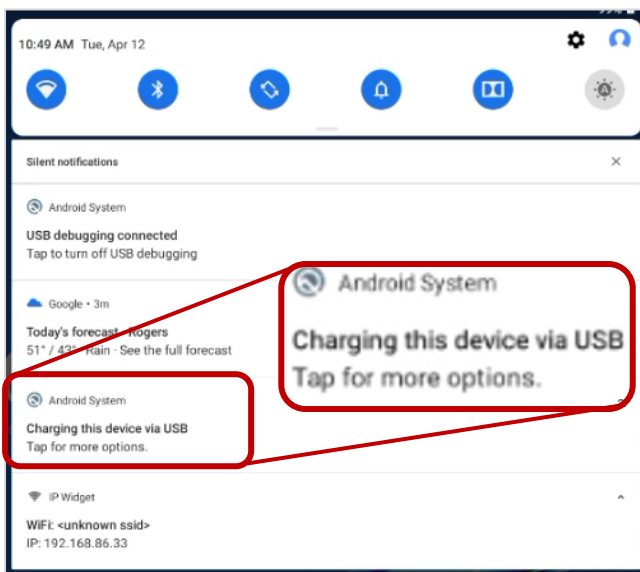

Figure 38
3. Swipe down from the top to display the **Silent Notifications** and locate the Android™ System notification about USB connection. Tap for other USB options (Figure 38).